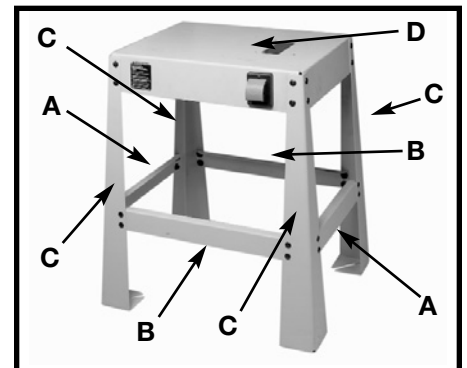

Fig. 6
1. Attach the two short lower braces (A) Fig. 6, and the other two long lower braces (B) to the four legs (C), using the sixteen 5/8" carriage bolts, flat washers, lockwashers, and hex nuts. **NOTE:** Hand tighten the hex nuts for future adjustments.
2. Attach the top shelf (D) to the legs, using the remaining carriage bolts, flat washers, lockwashers, and hex nuts. **NOTE:** Hand tighten the hex nuts for future adjustments.